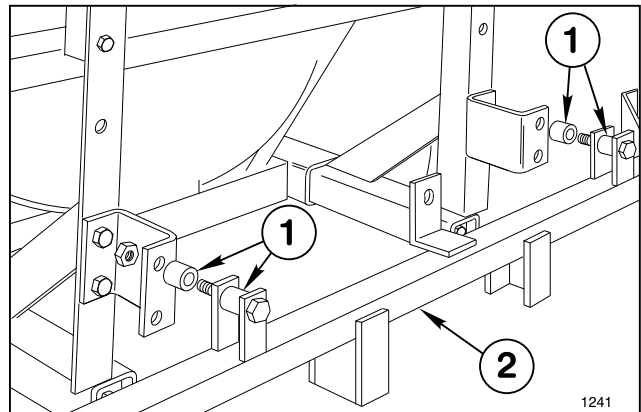
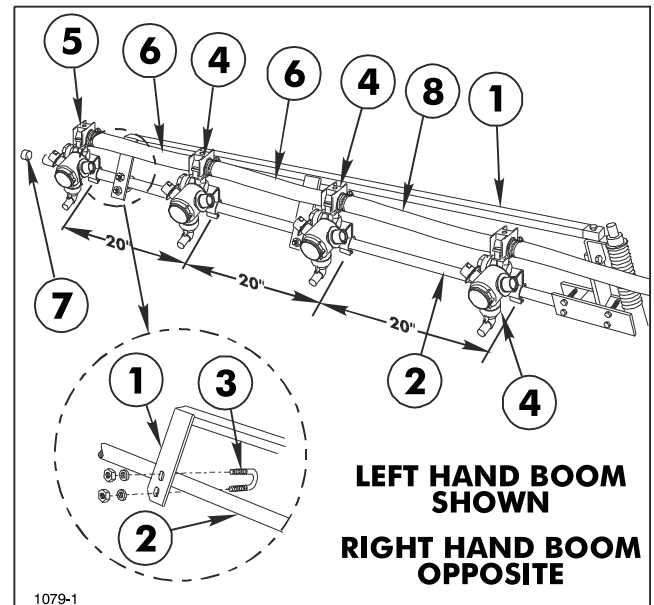

FIG. 12
FIG 15
5. Position a Spacer Tube between the lugs on each side of the Main Frame tube and between Main Frame and Boom Mounting Brackets. Insert a 1/2" x 3-1/2" cap screw through the lugs and spacers. Secure the Main Frame to the Boom Mounting Brackets with lock nuts. See FIG. 12.
13. Attach the L.H. Boom Support Assembly to the Pivot Assembly, using a 5/16" x 1-1/2" cap screw and lock nut. See FIG. 15 & 16.
14. Secure the two plates of the Boom Support Assembly to the Extension Boom Pipe, using two (2) 1/4" U-bolts, (4) lock nuts and flat washers. See FIG. 15.
17. Attach three Double Barb Turret Bodies and one Single Barb Turret Body with Clamp Assemblies on each Extension Boom Pipe as shown in FIG. 15.
18. Level Nozzles and space 20" apart. Connect the Turret Body Assemblies with 3/4" x 19" Jumper Hoses and a 3/4" x 21" Jumper Hose. Secure with hose clamps. See FIG. 15.
26. Attach a 3/4" x 50" hose to L.H. Ball Valve and secure with hose clamp. Route hose under Spacer Tube between Boom Frame and Boom Mount toward L.H. Extension Boom. See FIG. 12 & 16. Mark Hose and cut to proper length. Attach hose to Double Barb Turret on inside of L.H. Extension Boom using hose clamp. See FIG 15. Repeat for R.H. Extension Boom.